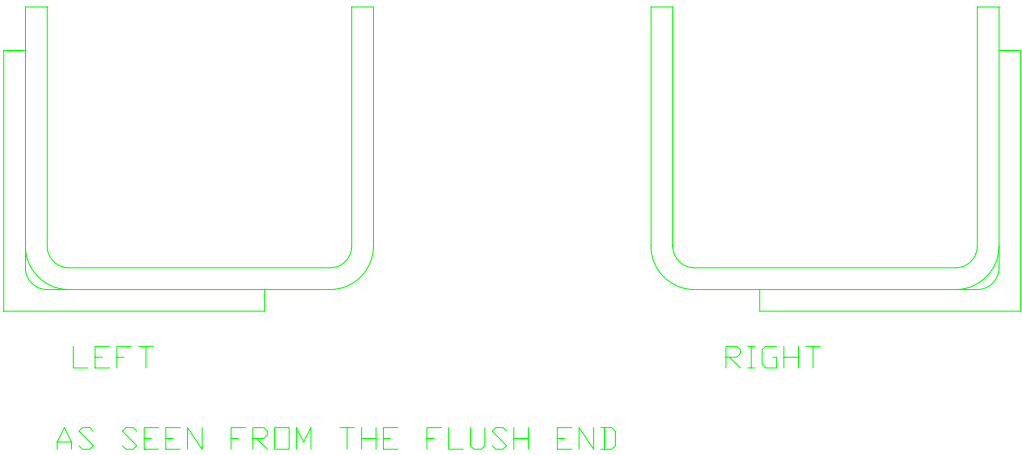

FIGURE 3
- 4) Repeat for the other FUS-340 bracket but make the opposite hand. Figure 3.